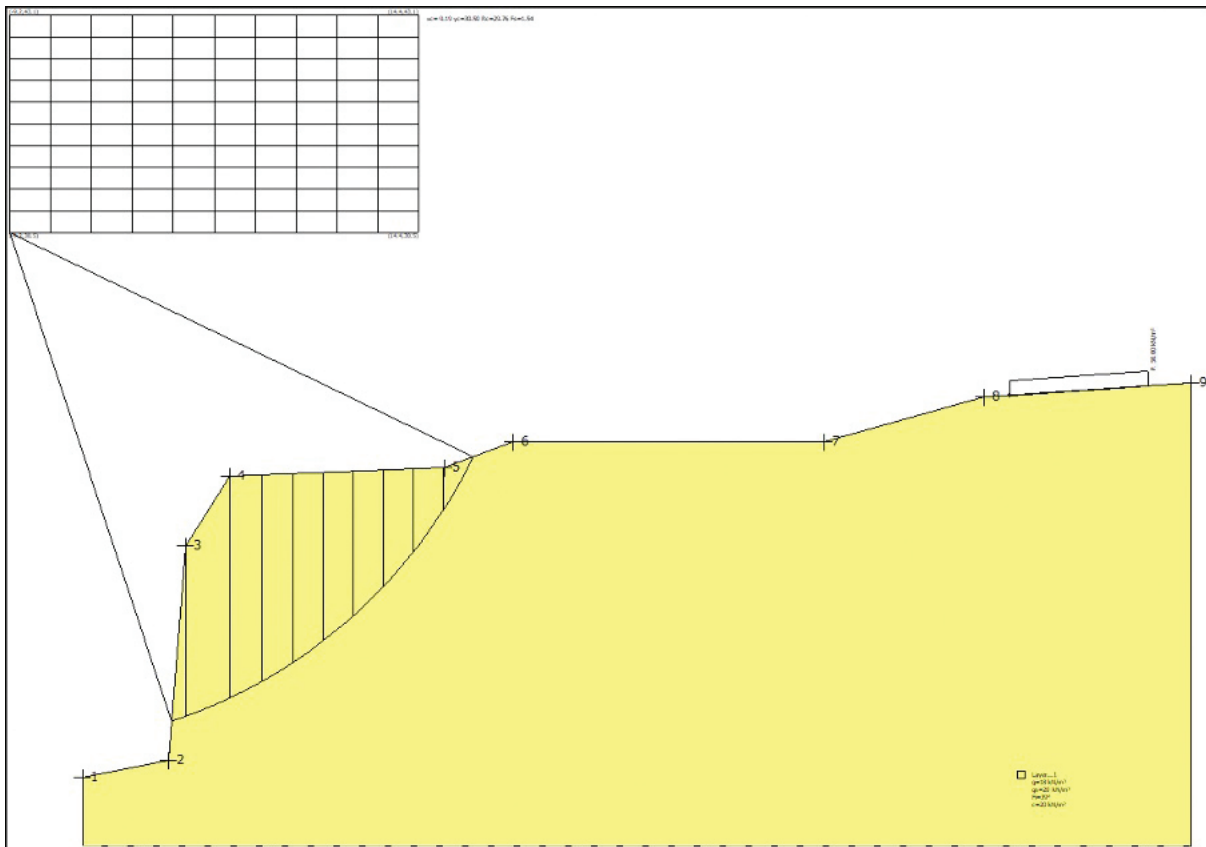

Figure 2: An example of the Bishop's method
- **Bishops** - A grid is drawn above/away from the slope. Each grid square will then be assessed and resulting failure loci will be drawn for each square. A factor of safety is given for each failure loci, with the lowest factor of safety highlighted (Figure 2).